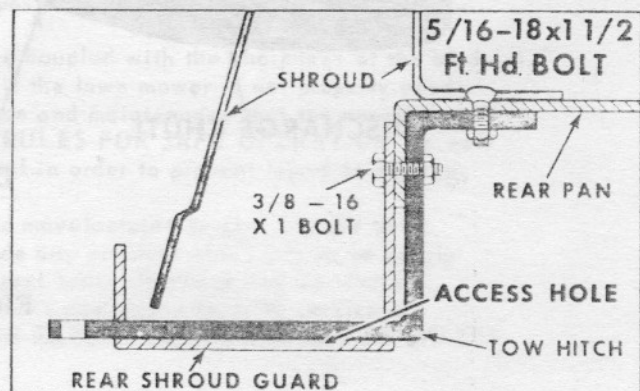

FIG. 4
1. Remove both bolts, nuts and shroud guard shown in Fig. 4.
2. Position tow hitch through shroud guard and mount on mower with the two bolts and nuts previously removed. (See Fig. 4).